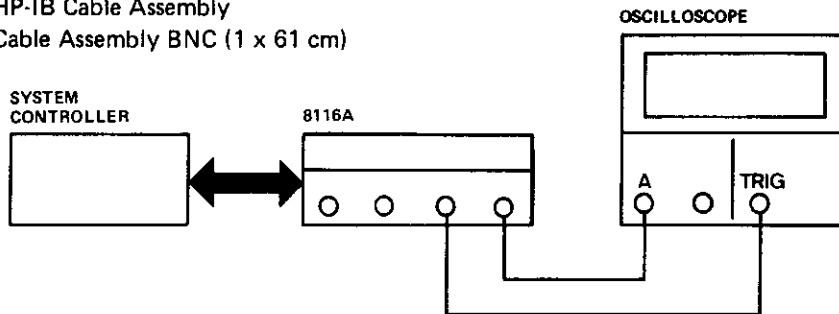

Figure 4-18. Test setup for HP-IB capability
1. Connect equipment as shown in Figure 4-18.